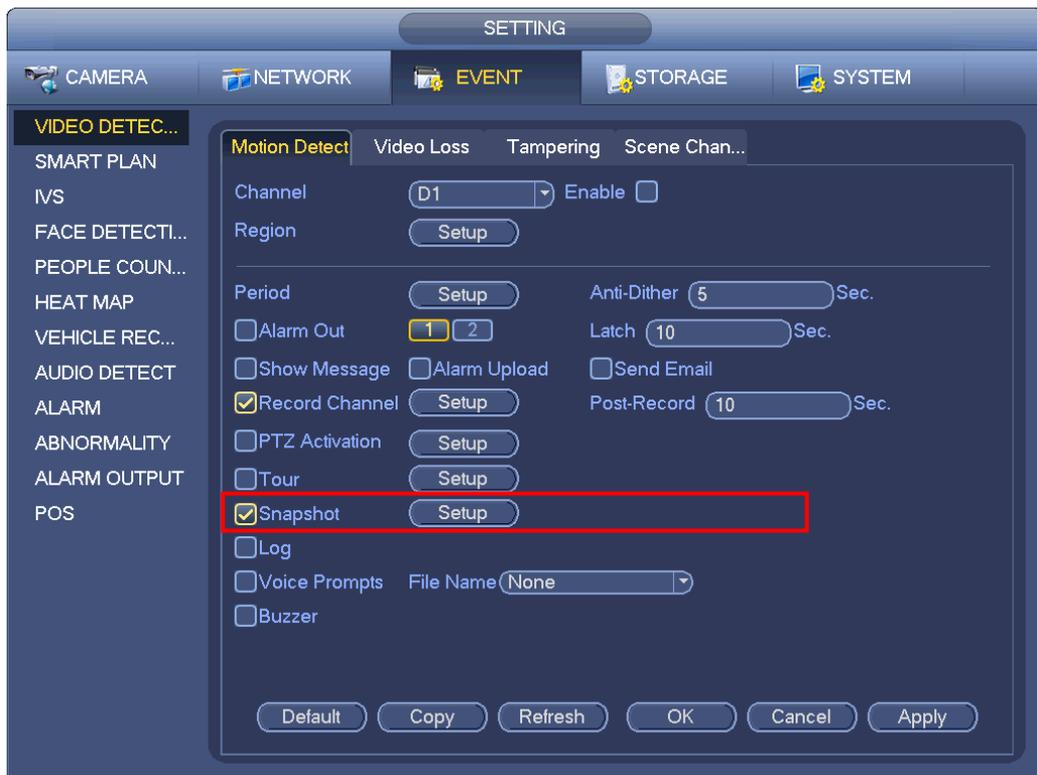

Figure 2-35
- When the record type is MD (motion detect), alarm, MD&Alarm, IVS and POS, please enable the channel snapshot function when corresponding alarm occurs. For example, when the alarm type is MD, from main menu->Setting->Event->Video Detect->Motion Detect, please select the snapshot channel and enable snapshot function. See Figure 2-35.